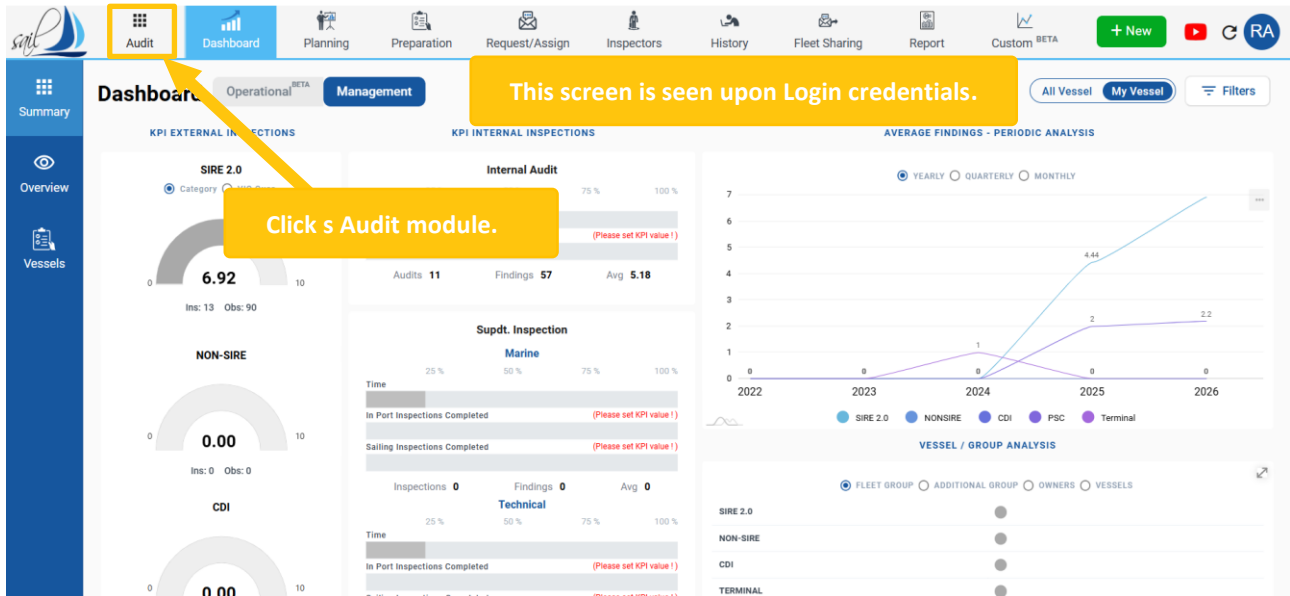

Figure 1
- Upon login, the screen below is seen. (Ref Figure 1)
- Click on the 'Audit' module. (Ref Figure 1)